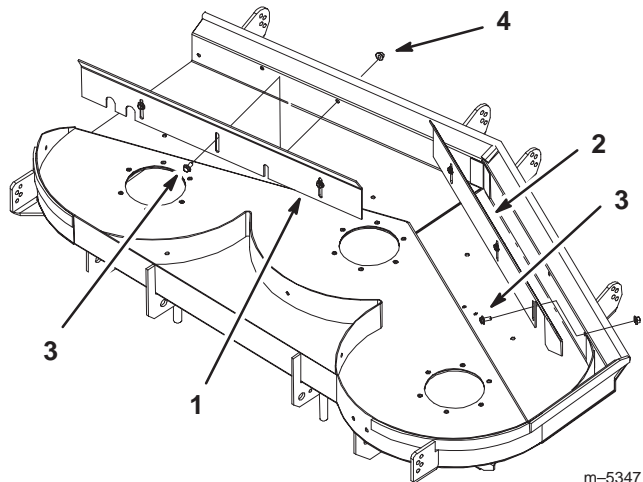

Figure 1
2. Place the new front baffles into deck and install using existing hardware (Fig. 1).